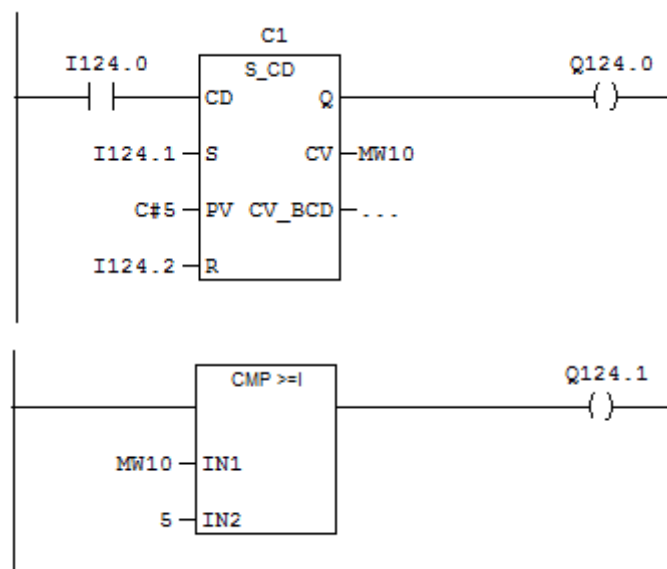

Figure 19. Ladder diagram of Counter Down
2. For counter down, configure ladder diagram as shown in Figure 19